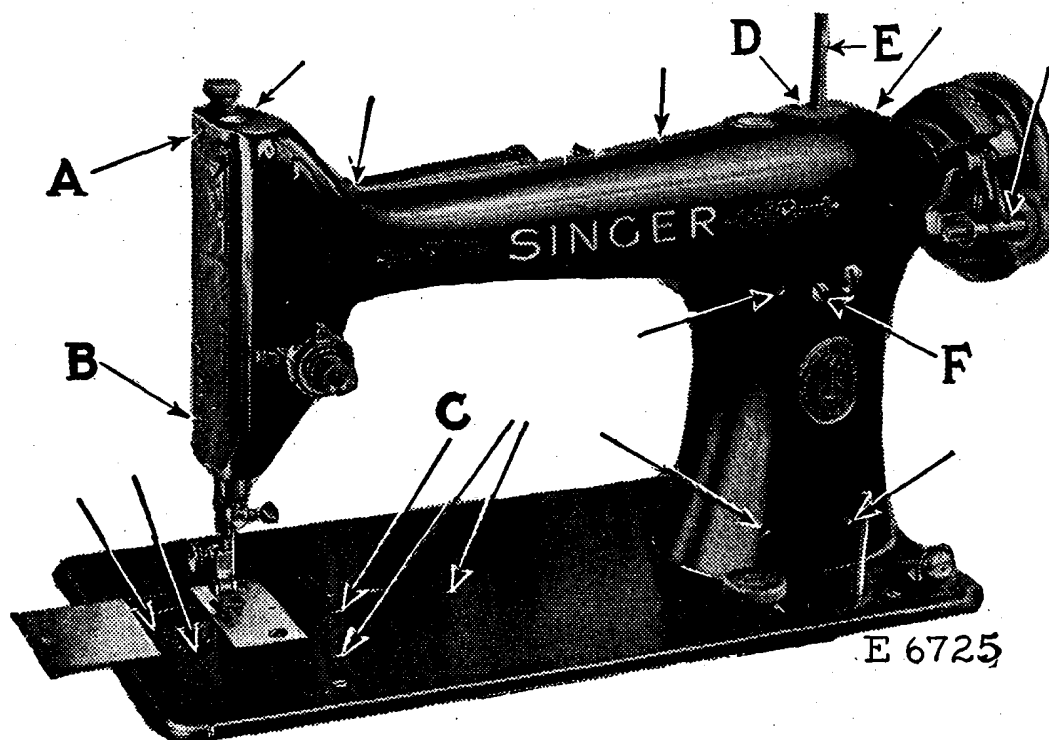

FIG. 27. FRONT VIEW, SHOWING OILING POINTS
machine requires oiling, and if used continuously, it should be oiled each day. With moderate use, an occasional oiling is sufficient. Oil should be applied at each of the places shown by arrows in Figs. 27, 28 and 29. One drop of oil at each point is sufficient with the exception of the oil hole (C, Fig. 27) into which hole about 12 drops of oil should be poured each time the machine is oiled. Oil holes are provided in the machine for bearings which cannot be directly reached.
To oil movable parts in the head of the machine, take out the screw (B, Fig. 27) near the lower end of the face plate and loosen the screw (A, Fig. 27)
The gears of the motor should occasionally be lubricated with grease from the tube of **SINGER** MOTOR LUBRICANT which is furnished with the machine. Unscrew the spool pin (E, Fig. 27)—a slot being cut at the top of the spool pin to permit the use of a screwdriver. After removing the spool pin and felt washer (D, Fig. 27) insert the tip of the motor lubricant tube into the spool pin hole and force a small quantity of the lubricant through the hole to lubricate the gears, then replace the spool pin and felt washer. **Under no circumstances should oil be used at this hole, but only the lubricant.**
- (b) Remove the screw (F, Fig. 27, page 28) which holds the motor.
- (j) Replace the screw (F, Fig. 27, page 28). The final position of the motor has an important bearing on the free running of the machine, and it may be necessary to slightly shift the motor to the left or right before the final tightening of the screw (F, Fig. 27).